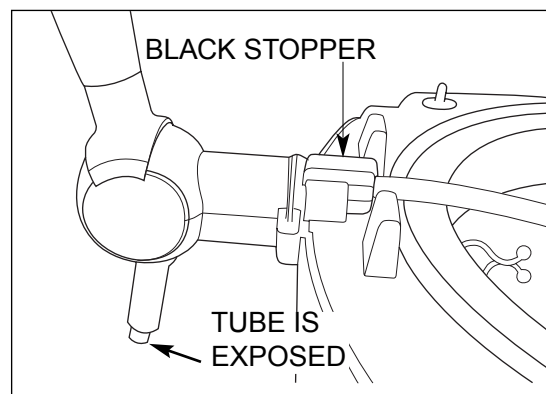

Figure 14
3. Pull the tap handle completely down and push the DISPENSING TUBE into the tap. Make sure the BLACK STOPPER fits securely in the inlet just before the tap (See *Figure 14*).
4. Make sure the DISPENSING TUBE is slightly exposed below the tap (See *Figure 14*).